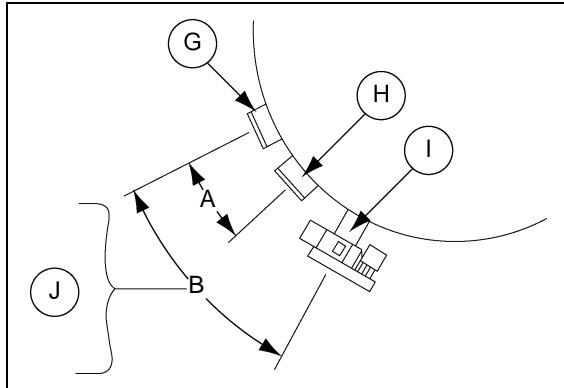

Figure 16D
5. Locate the Calc-U-Dri control box near the unit's main control box, discharge auger and sampler so that it is easily accessible and convenient height for you to observe and use. Mount the control box to the bin wall, using four (4) 5/16" x 1-1/2" bolts, lock washers and nuts. (See Figure 16D.)